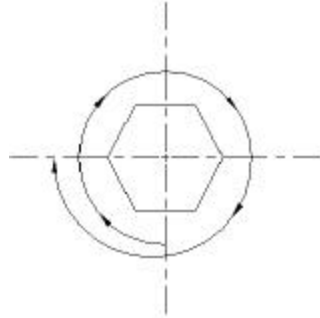

Figure 4.4-3 Tightening Nut 1 1/4 Turns
- A. For tubing OD \geq 1/4 inch: Tighten nut 1-1/4 turns (as shown in Figure 4.4-3 below left) to swage ferrule. (Nut mark should be at 9 o'clock position).
- For tubing OD $\geq 1/4$ inch: 9 o'clock position (refer to Figure 4.4-3)